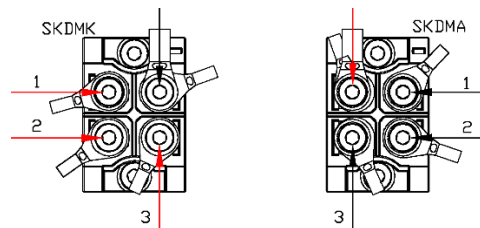

Figure 6.3: Position of the tips for diode modules conduction
2. Using an ohmmeter, measure the resistance of each diode according to the Figure 6.3. Positive cable (red) at the anode and the common cable (black) at the cathode to measure in the conduction direction.